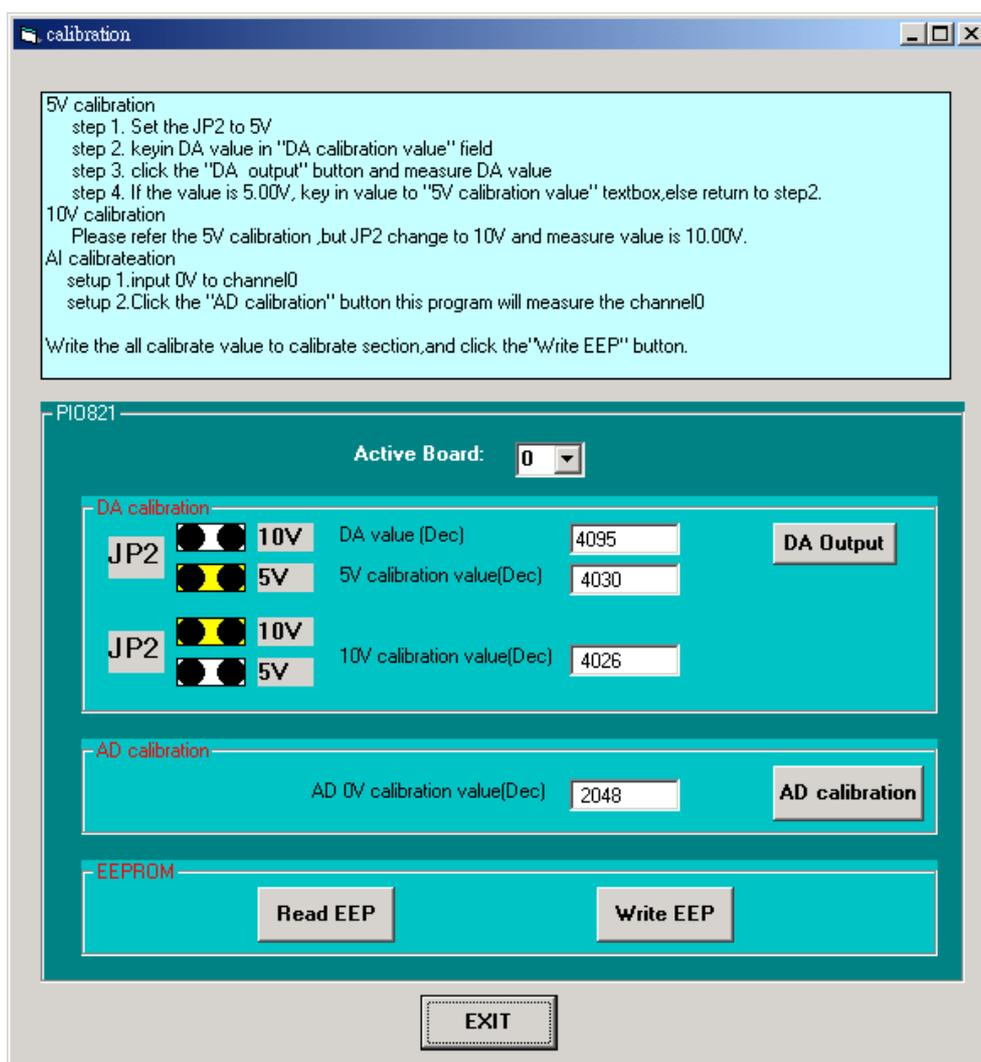

Figure 3.1.
- Step 2. Run the calibration tool, which is located in "/program files/DAQpro/PIO-821/calibration.exe" in order to open the configuration interface, as shown in Figure 3.1.